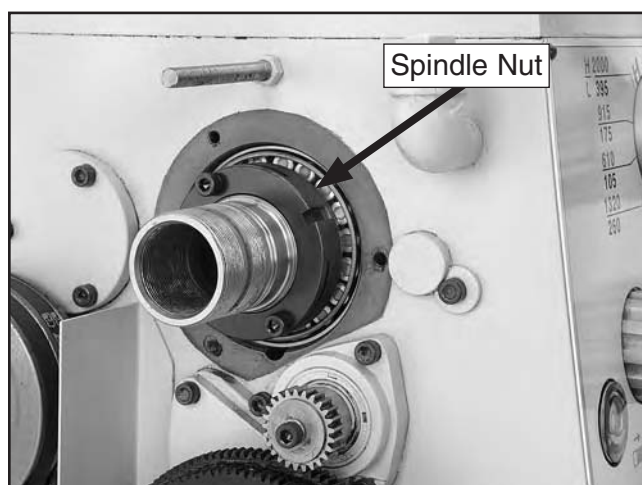

Figure 142. Spindle nut exposed.
4. Remove the three cover cap screws and the cover to expose the spindle nut, as shown in **Figure 142**.